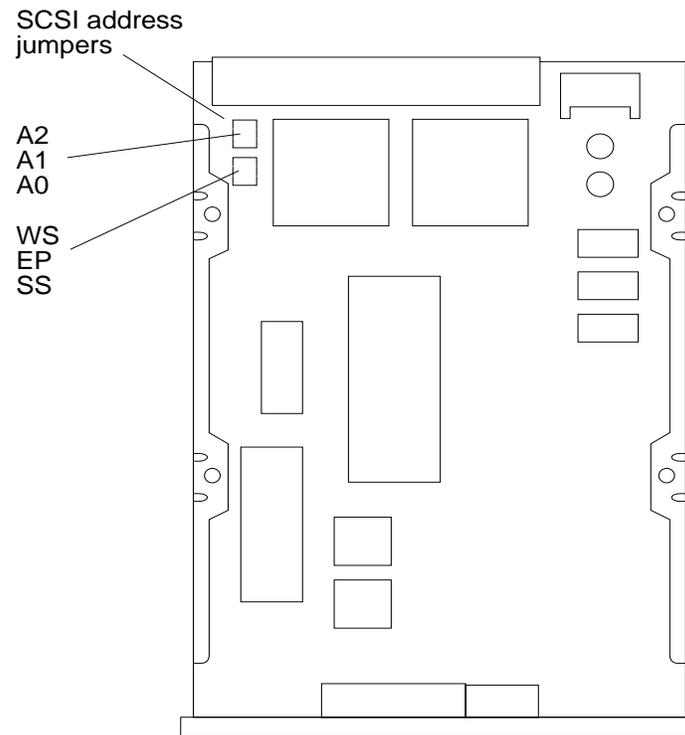

Figure 4-7 Hard Disk Drive Controller Board With the Bracket Removed
Before replacing a hard disk drive, you must verify that the SCSI drive address ID is installed correctly (see Figures 4-7, 4-8 and 4-9).
2. Remove the jumper from A1 (see Figures 4-7 and 4-8) if it is present on the replacement drive. This action changes the SCSI Device ID of drive 2 from 3 to 1.